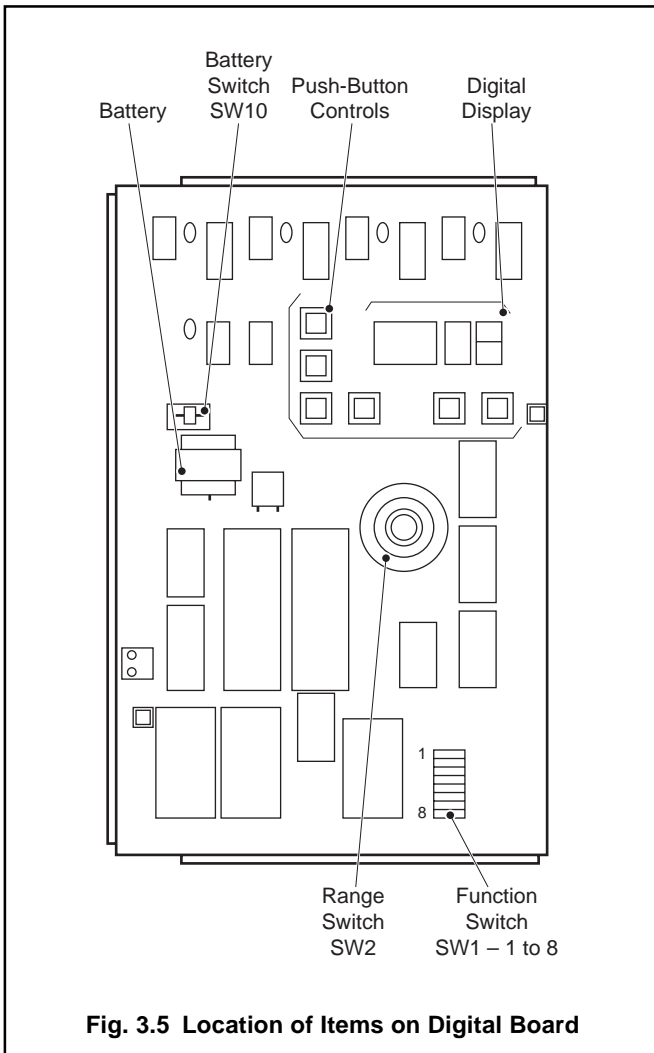

Fig. 3.5 Location of Items on Digital Board
- c) Switch the battery switch SW10 to 'ON' – see Fig. 3.5.
3.2.3 Circuit Board Function Switch SW1 (Fig. 3.5)